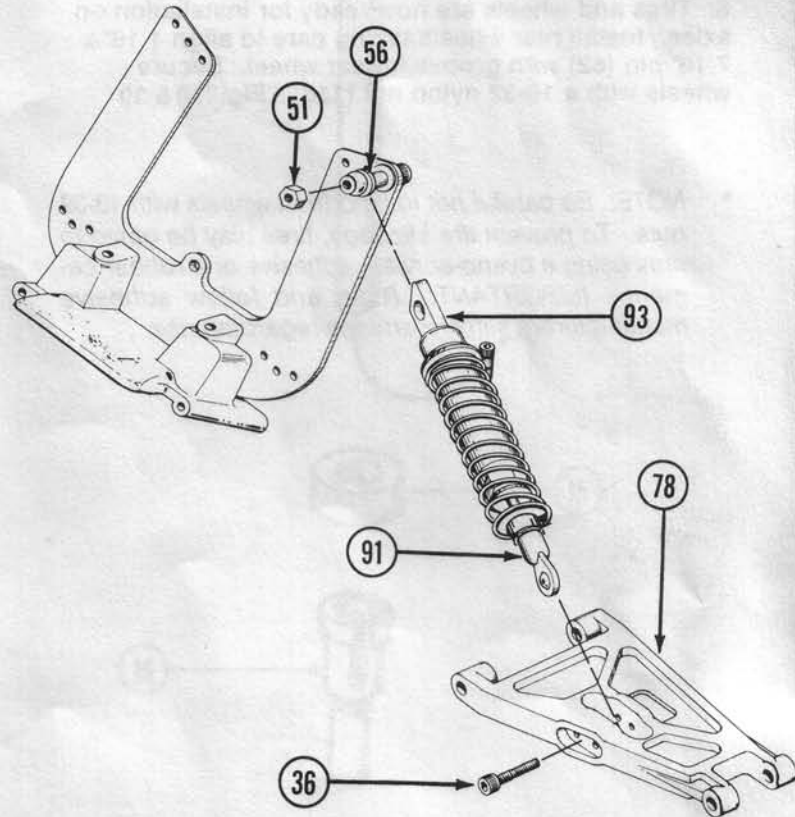

FIG. 37
* NOTE: One end of turnbuckle has left hand threads. Fig. 37
4. Align 1/4" ball (58) in lower front shock mount (91) with inside hole in front A-arm (78). Fig. 37
5. Thread a 4-40 x 1/2" socket head screw (36) into front of A-arm (78) through shock mount and into other side of A-arm. Fig. 37.
6. Place shock body (93) on front shock mount (56) and secure with 4-40 nylon nut (51). Fig. 37.